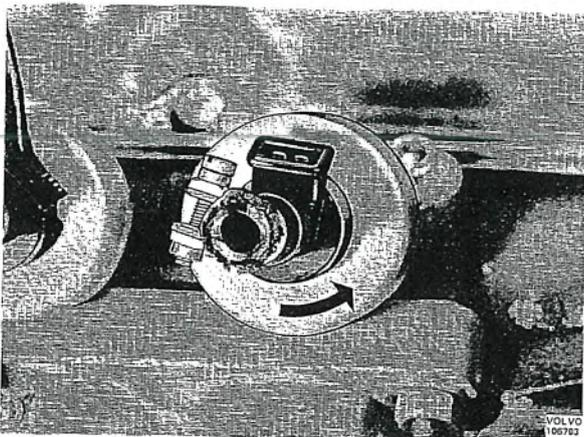

Fig. 2-100. Removing injector
3. Turn the lock ring, Fig. 2-100, anti-clockwise so that it loosens from the bayonet fitting. Pull out the injector.